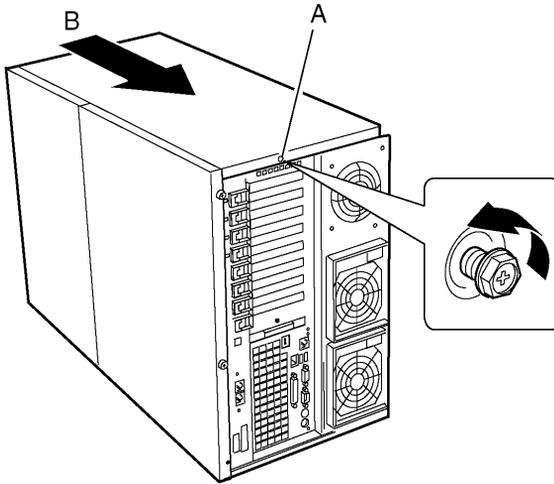

Figure 61 - Removing the left panel
- 1 Loosen the screw (Figure 61, A) on the rear edge of the left panel.
- 2 Slide the cover toward the rear of the chassis (Figure 61, B) and lift it off.